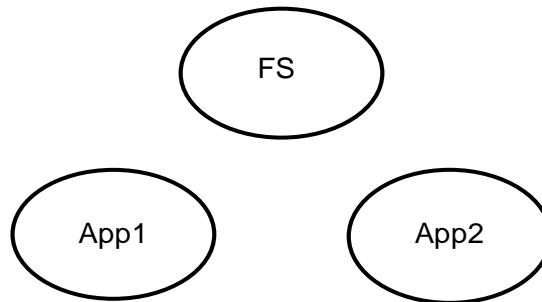
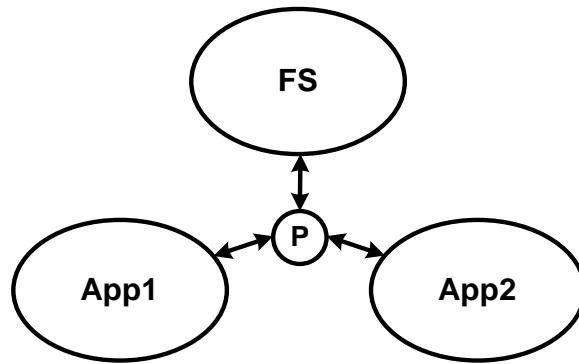

Figure 5.1 Desired Isolation Between Partitions
Figure 5.3 Partition Isolation Using FS Portal P
Figure 5.1 shows the desired isolation between a file system (FS) partition and two application partitions (App1 and App2) that use the file system.
Figure 5.3 shows the isolation achieved with file system partition portal, P. The double arrows represent bidirectional data transfers. Note that there is no overlap between the partitions. Hence, the desired full level of isolation shown in Figure 5.1 has been achieved. Partition portals are indirect calling mechanisms which permit full isolation between partitions. They are based upon *smx protected messages*, *pmsgs*, working in combination with the Cortex-M MPU.